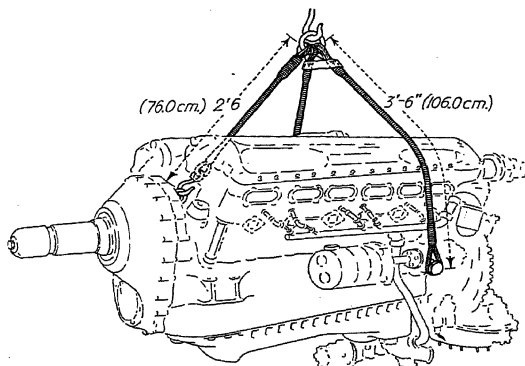

FIG. 4.—Sling used in handling engine in and out of plane.
**Handling the Engine.**—Three points are provided for attaching slings, as in Fig. 4, which also shows the length of each cable. Two of the slings have eyes; the short sling has a hook. Slings should be padded where they contact the cylinders.